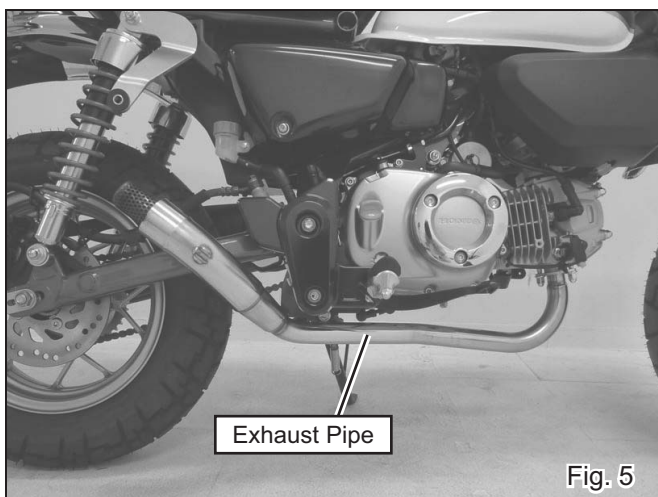

Fig. 5
- 5) Replace stock gasket at exhaust port of engine with new one. Then, mount Exhaust Pipe with 2 of Long Flange Nut M8 (See Fig. 5 & 6 on next page). Tighten nuts by hand only at this stage.